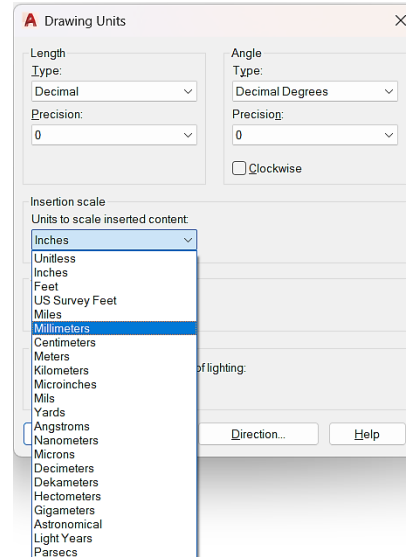

Fig. 11.1
- The Drawing Units dialog box will appear as shown in Fig. 11.1.